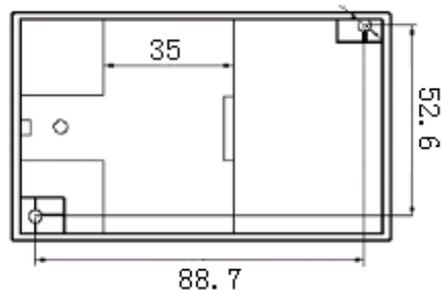

Figure 3, SK outline installation dimensions
DIN35 rail mounting or screw mounting, the installation size as shown in Figure 3 (in mm).
- ② Pull the spring pin down;
- ③ Clip the transducer mount on the mounting rail;
- ④ Release the spring pin and clip the transmitter on the mounting rail.
- ① 3mm diameter hole in the fixed plate according to the screw hole position shown in Fig. 3;
- ② Use the screw Φ3 to insert into hole and secure it.